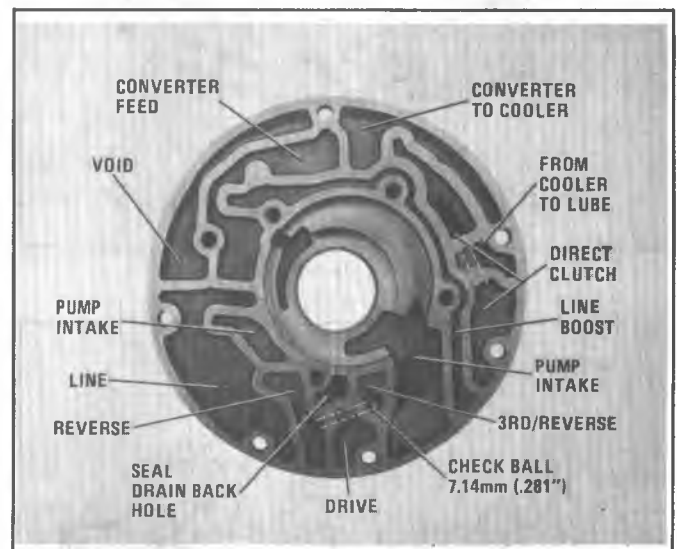

Figure 7A1-144 Pump Body Assembly
2. Inspect six (6) cup plugs. If a plug is missing, drive a new cup plug to .79mm (1/32") below top of hole, using a 6.35mm (1/4") diameter rod on the smaller plug and a 7.92mm (5/16") diameter rod on the five larger plugs. Stake top of hole two places, directly opposite each other, to retain plug.
6. Insert orifice plug (See Figure 7A1-152). If the plug requires replacement, place new plug, orifice end first, into plug hole from the rough casting side. Drive the plug flush to .25mm (.010") below top of hole, rough casting side. Stake the top of hole two places to retain the plug.